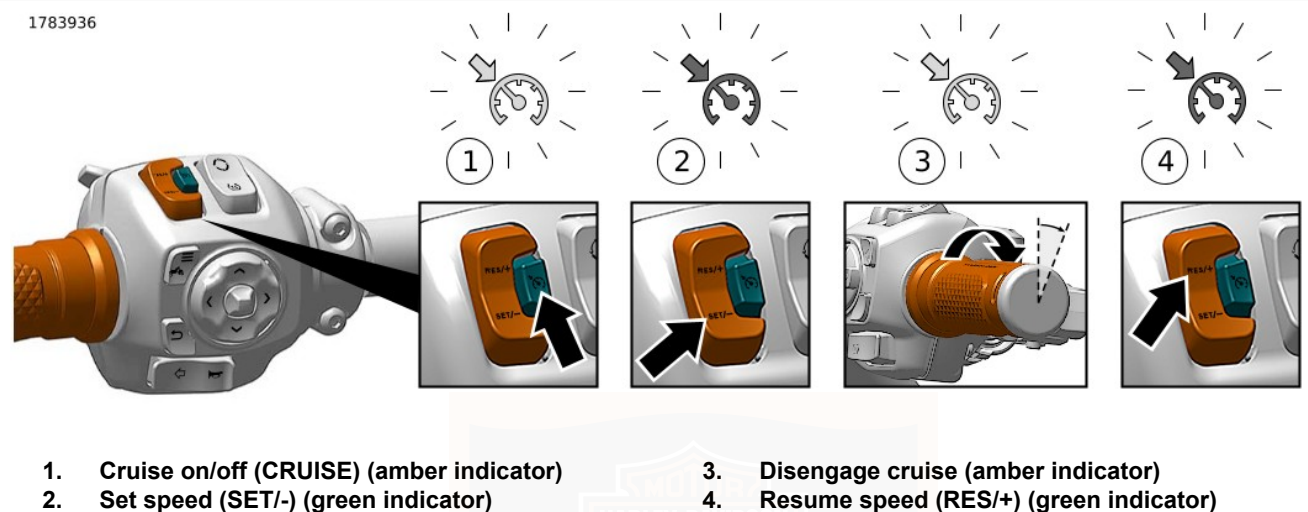

Figure 48. Cruise Control (typical)
See Figure 48. Press the CRUISE switch to turn on cruise (1). When on, the cruise icon in the speedometer face glows amber.
See Figure 48. When the motorcycle reaches your intended speed, press the SET/- switch to set the cruise speed (2). The amber cruise icon changes to green and will display set speed.
See Figure 48. To drop out of cruise speed, roll the throttle closed through the roll-off switch (3).
See Figure 48. If cruise has been disengaged yet the cruise indicator is amber, pressing the RES/+ switch resumes cruise (4). The icon glows green. The motorcycle automatically resumes cruise at the set speed.